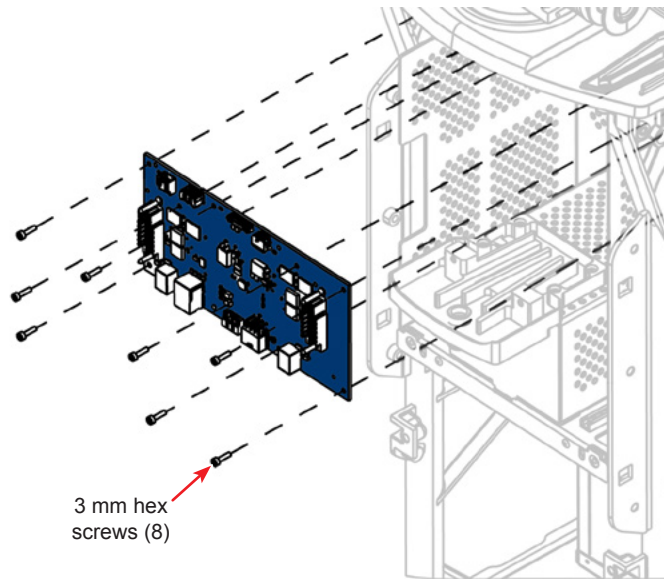

Figure 3-14 Upper Backplane PCB Removal
- 20.5 Carefully pull Upper Backplane PCB off guide posts, rotate to clear display cables, and remove from system (Figure 3-14).